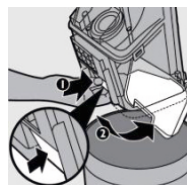

Figure 26
4. While holding the dust container over the trash can, press the lid release button and open the bottom cover of the dust container (Figure 26).